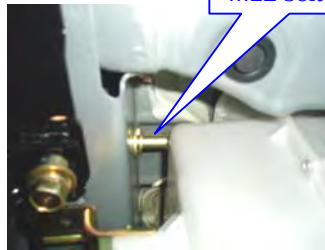

FIG 2
- 2 x M12 bolts located on the outside horizontal face of chassis rails 1 each side see fig 2.
- Don't remove the forward most bolt completely from chassis rails just enough to lower the tie down support frame see figure 2.